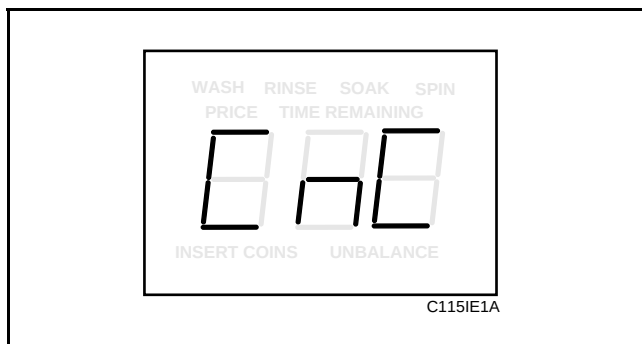

Figure 32
3. Press the DELICATES (+) pad or the COLD (–) pad to scroll through the programmable options until “CnC” appears in the VFD. See **Figure 32**.